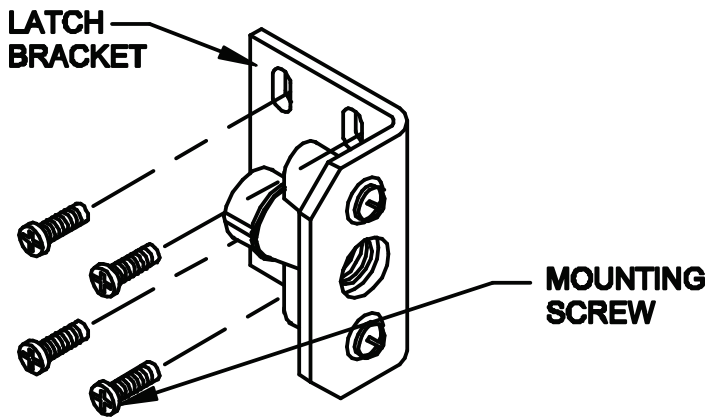

FIGURE 3
H. Door Latch Alignment (Figure 3)